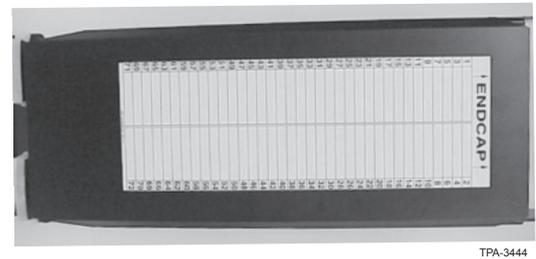

Figure 17
**Step 5:** Record splice information appropriately on the splice label and attach the splice plane cover (Figure 17).